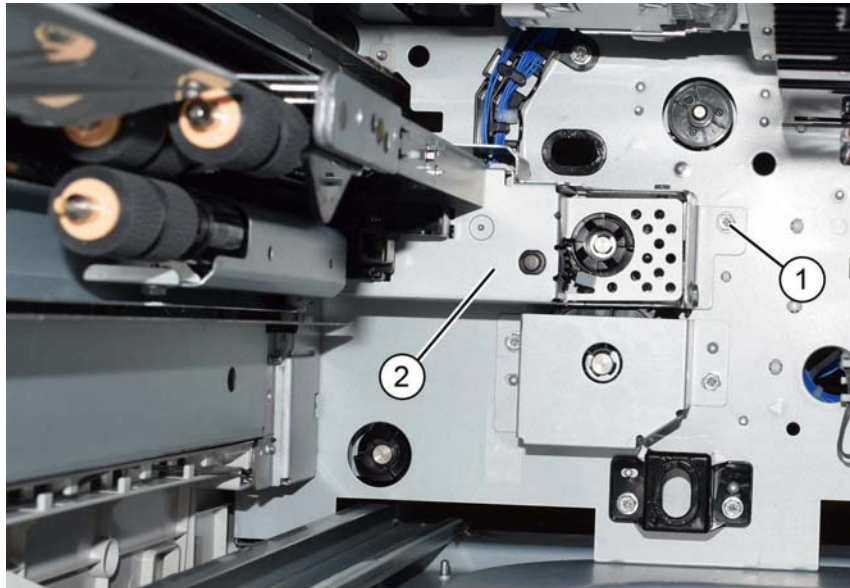

Figure 5 Tray 3 feeder assembly removal
8. Remove the complete tray 3 feeder assembly including bracket, Figure 5.
- Remove the screw (1).
- Remove the tray 3 feeder assembly (2).